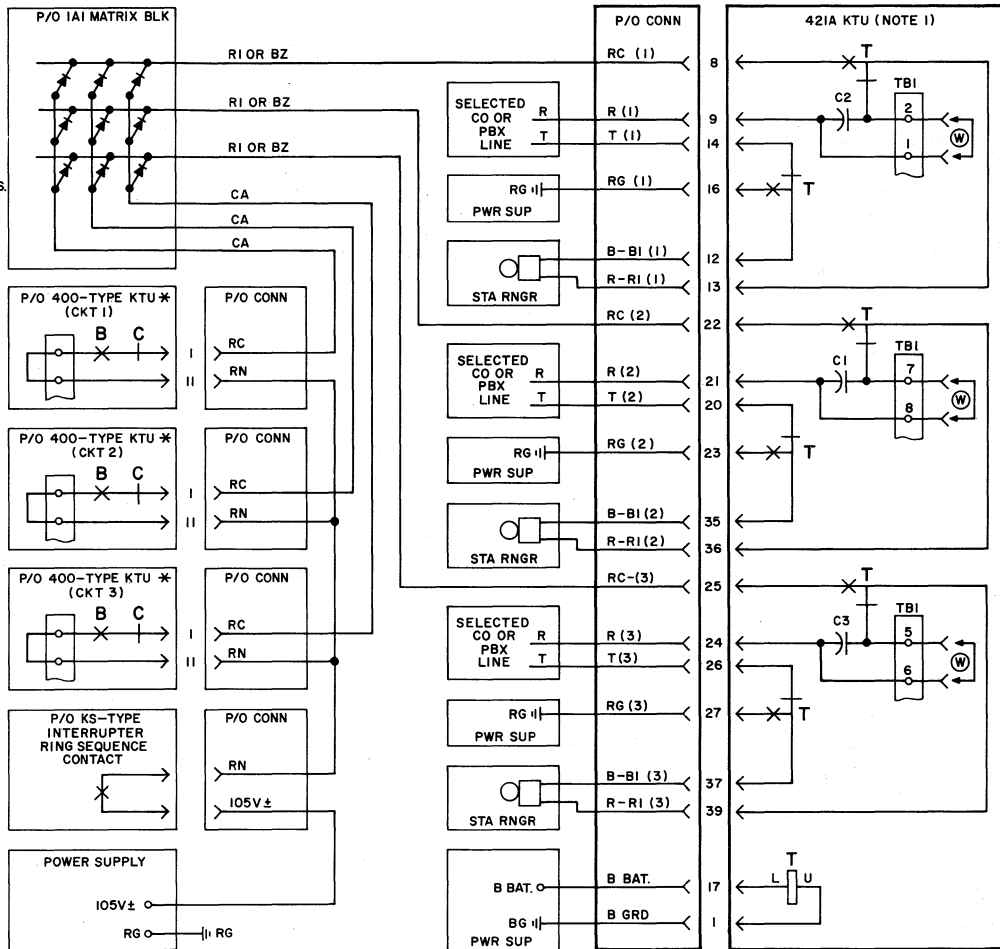
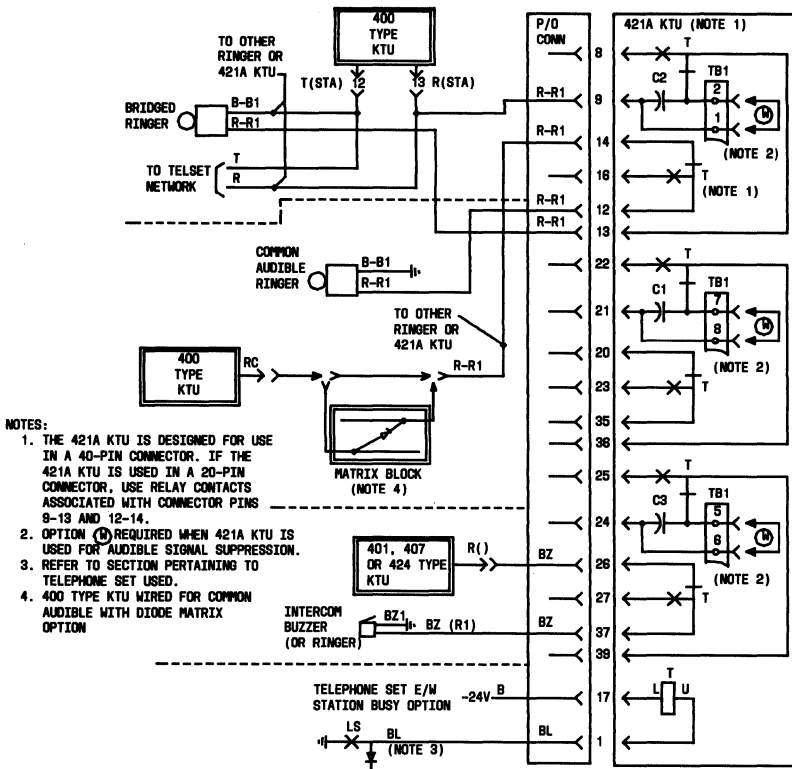

Fig. 7—Condensed Functional Schematic of 421A KTU (Wired for Power Failure Transfer)
Fig. 8—Condensed Functional Schematic of 421A KTU (Wired for Audible Signal Suppression)
2.05 The 421A KTU is a 4-inch, 40-contact unit that can be used to automatically transfer a maximum of three station ringers from a common audible connection to a line ringing connection in the event of a power failure (Fig. 7). †The 421A KTU can be used to suppress (cut off) audible signals on a line or lines associated with a key telephone set when that set is off-hook (Fig. 8).‡ It can also be used as a general purpose relay